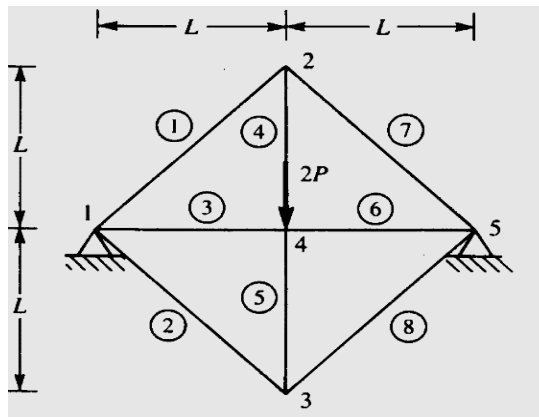

Figure Q2a
b) Identify the symmetry lines in the two-dimensional truss shown in Figure Q2a and explain your choice.